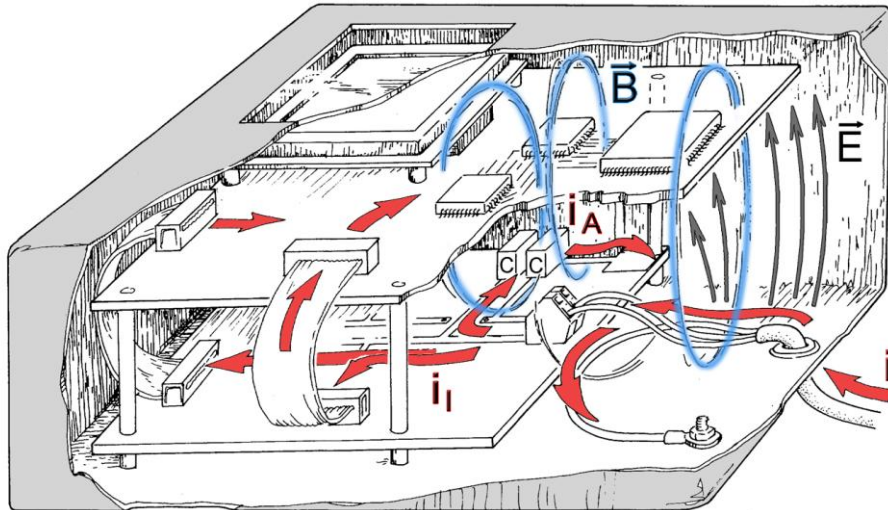

Figure 3 Field distributions
- Disturbance pulse current (I) infiltrates electronic modules via conductors or capacitance. Electric disturbance fields (electric field strength E) or magnetic disturbance fields (magnetic flux density B) caused by the disturbance current radiating the surface of the modules.
- **Magnetic pulse fields (B)** or **electric pulse fields (E)** are the major physical quantities which cause flat modules to be influenced.
- In practice, both weak spot types are relevant. For example, in disturbance events, electric fields which influence electric-sensitive weak spots can occur. The currents driven by the electric field can themselves produce magnetic fields which influence magnetic sensitive weak spots (**Figure 3**).